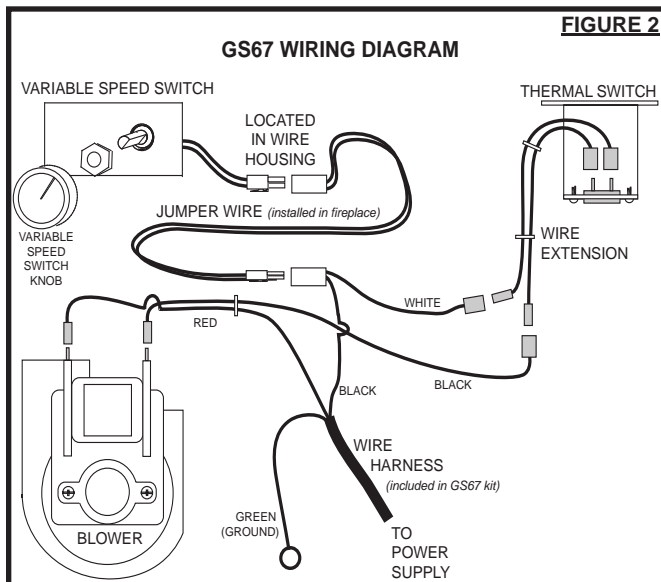

FIGURE 2
2. Feed the wire extension through the blower knock-out and back out through the thermal disk knock-out as shown and connect to the prongs on the thermal disk. (FIGURE 2)
4. Connect the variable speed switch jumper wire (installed in the fireplace) located just inside the larger knock out area to the wire harness. (FIGURE 2)